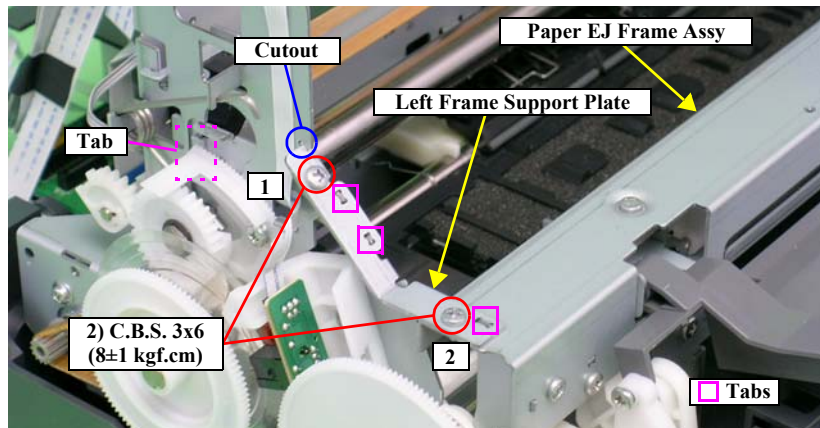

Figure 4-59. Removing the Left Frame Support Plate
- Insert the Left Frame Support Plate into the cutout of the Main Frame. See Figure 4-59.
- Align the two tabs on the Main Frame and the tab on the Paper EJ Frame Assy with the three positioning holes on the Left Frame Support Plate. See Figure 4-59.
- Align the tab (rear side) of the Left Frame Support Plate with the outside of the Left CR Shaft Mounting Plate. See Figure 4-59.
- Tighten the screws in the order shown in Figure 4-59.